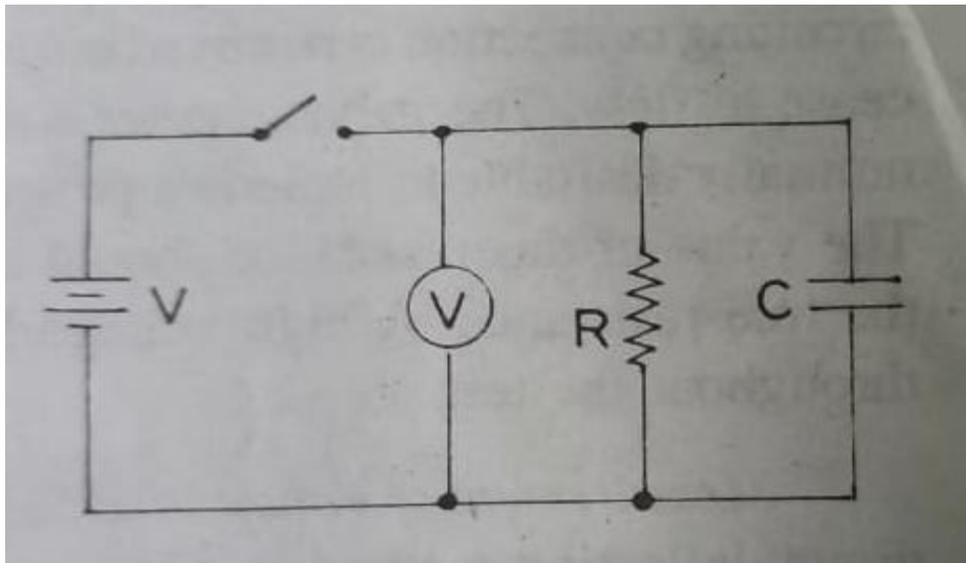

Fig . No. 1 Loss of Charge method
- Fig. No.1 shows the loss of charge method.
- In Fig. No.1 when switch is closed capacitor charges to the supplied battery voltage V.